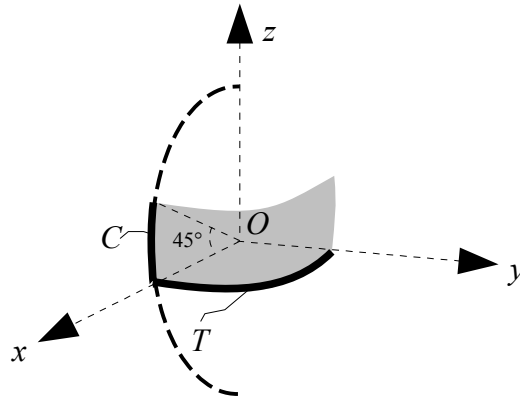

Figure 2: generalized revolution patch.
Compute the actual positions **in 3D** of these control points, and sketch them on figure 2.
d- Compute the position of the control points to represent the arc C in figure 2. 3D positions and weights (or homogeneous coordinates) **and the proof** leading to these values are asked (you can help yourself with a sketch).
- e- From the results of question d, build the patch (in grey on figure 2). Give the final control points (3D position and weights), assuming that the trajectory curve has the control points and nodal sequence given in question b, and the profile curve is the circular arc of question d.